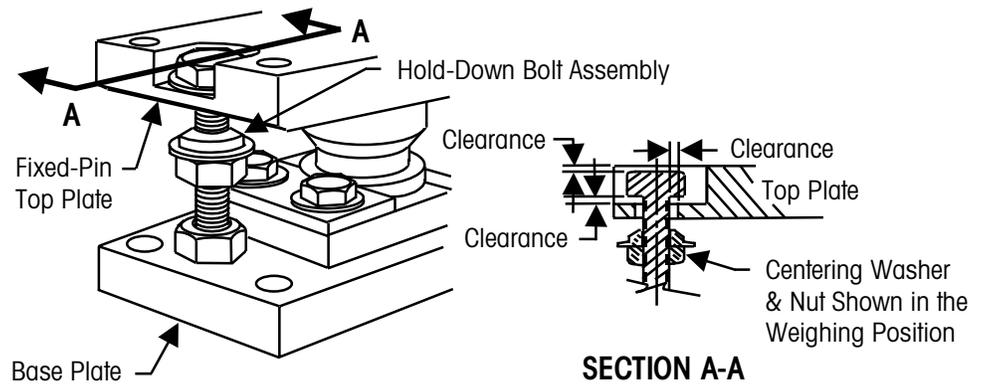

Figure 7-7: Flexmount HD Hold-Down Bolt Assembly
8. After all the top plates are down and applying load to the load cells, make sure there is adequate clearance between the hold-down bolts and retaining holes. See the hold-down bolt assembly shown in Figure 7-7.